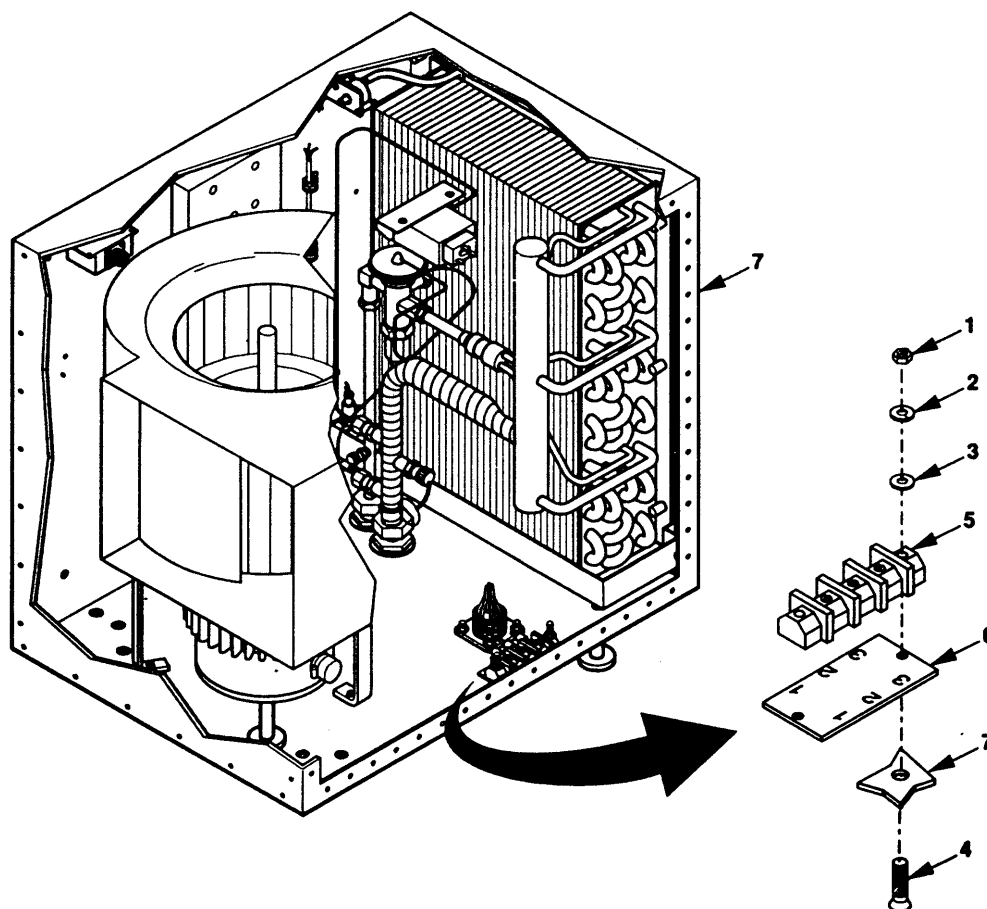

Figure 5-20. Evaporator Single Row Terminal Board Maintenance
**a. Remove.** Remove two nuts (Figure 5-20, 1), lock washers (2), flat washers (3), screw" (4), single row terminal board (5), and marker strip (6). Discard lock washers (2).
- (1) Inspect single row terminal board (5) for cracks, broken, missing, corroded or dirty contacts on the terminal board.
- (2) Inspect all mounting hardware for damage.